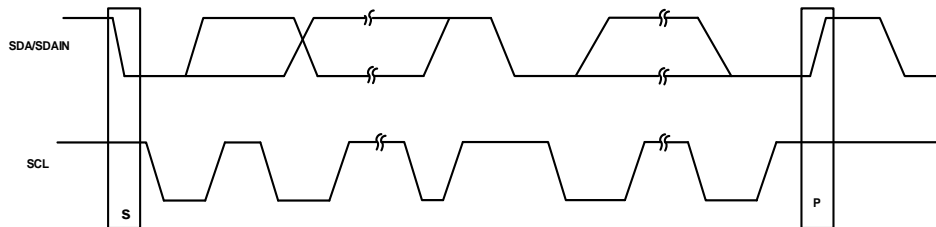

Figure 6 START and STOP Conditions
Both SCL and SDA remain high when the interface is not busy. A master signals the beginning of a transmission with a START (S) condition by transitioning SDA from high to low while SCL is high. When the master finishes communicating with the slave, the master issues a STOP (P) condition by transitioning SDA from low to high while SCL is high. The STOP condition frees the bus for another transmission (see Figure 6).